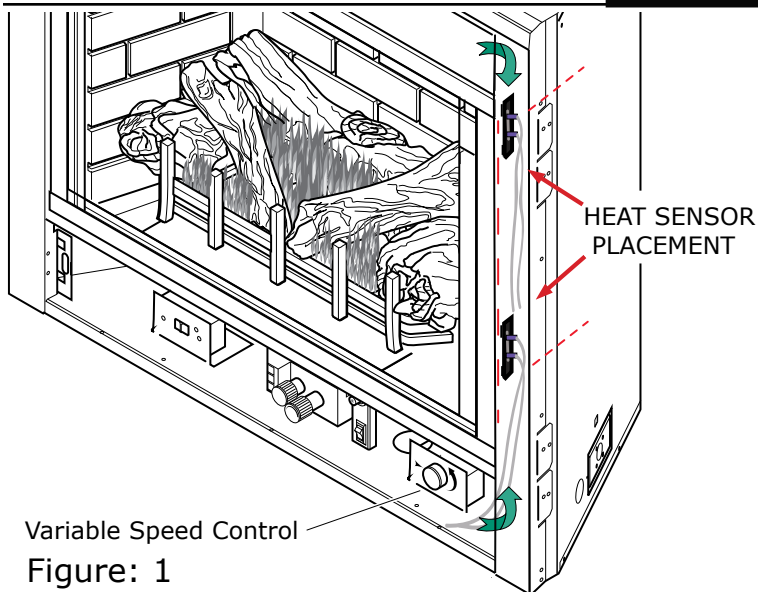

Figure: 1
Run the 2 Hi-Temp wires down the side. Place magnetic thermodisc/heat sensor to the warmest spot on the right side of the firebox, 1-3 inches down and 1-4 inches towards center. (Figure: 1)
**2B)** From the lower vent space, position the magnetic thermodisc/heat sensor up the side of the firebox 2-4 inches and 2-5 inches toward center. (Figure: 1)
The Speed control may also be mounted to a panel or bracket by removing knob and lock nut; put stem through panel, return lock nut and knob into place. Use 11/16 wrench to turn lock nut. (Figures: 1, 7&8)